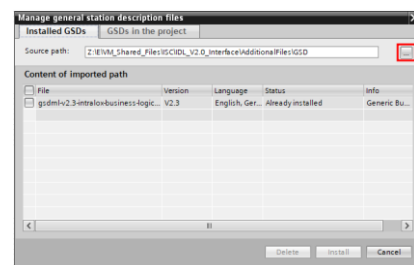

Figure 2: Manage general Station Description Files -> Browse Button
5. A window will open “Manage general station description files” click on the ellipse button, Figure 2